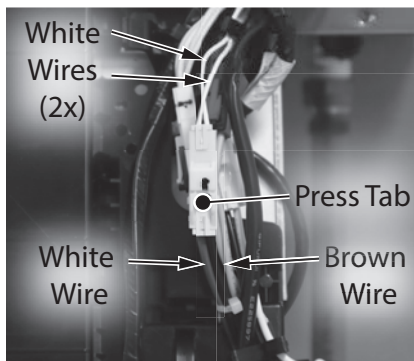

Figure 43 - Disconnect thermostat wiring
- 6 With control board panel lowered, locate the freeze protection thermostat wire connection (white) as shown in Figure 43. Press tab on connector and disconnect wires. Wires leading to control board are white and brown. Wires leading to thermostat are both white.
- 10 Connect freeze protection thermostat to wiring cluster located at the control board panel as shown in Figure 43. Confirm wiring is snug inside plastic organizer.